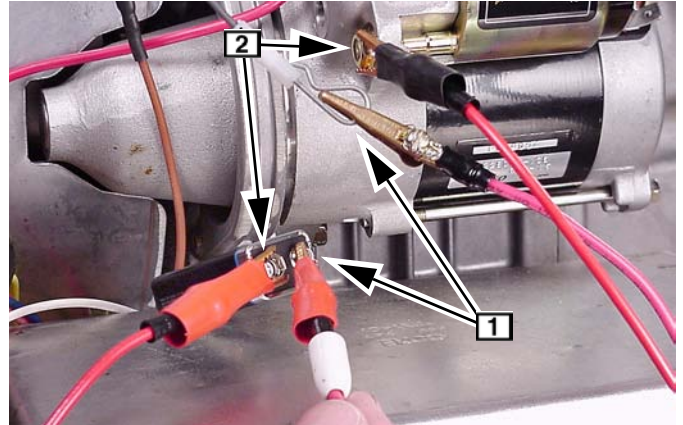

Fig. 18
1. Attach one jumper wire to solenoid wire **1** (GRAY WIRE) and positive terminal on battery **1**, Fig. 18.